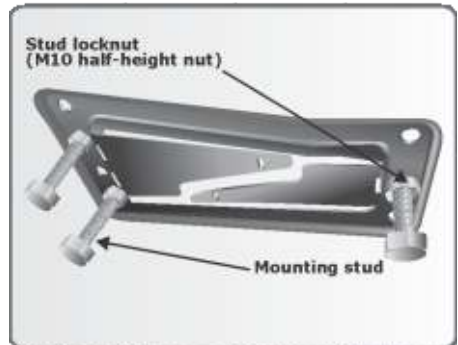

FIGURE 22.
2. Fit the three mounting studs to the **D2 Turbo** foundation plate and secure in place using the stud locknuts supplied with this kit. The half-height nuts should be used on the underside of the plate as shown in Figure 22, as these will later be used for height adjustment. However, if space allows – i.e. there will be sufficient clearance between the rack and the pinion once the operator has been mounted – the orange height-adjustment nuts may be used.